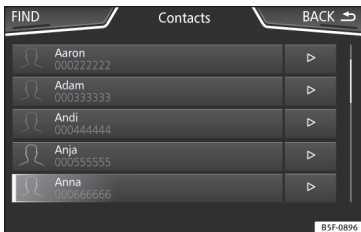

Fig. 189 Contacts Menu.
- Press the **Search** function button >>> Fig. 189 to open the search window.
- Press the function button **>>> Fig. 189** located next to the entry on the contacts list.